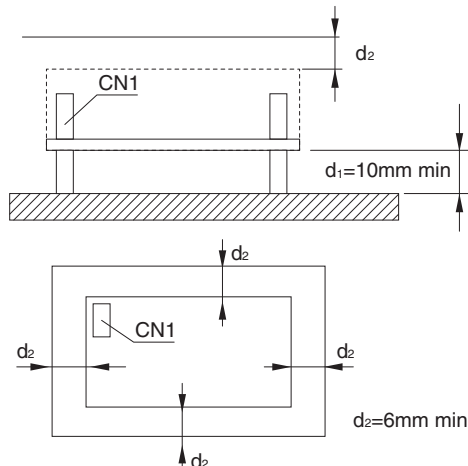

Fig.4.5 Installation method
- If using a metal chassis, keep proper insulation between the component and metal chassis, use the spacer of 10mm or more between bottom of power supply and metal chassis. If d_1 and/or d_2 are less than the value mentioned in Fig.4.5, insert an insulating sheet with reinforced insulation between the power supply unit and metal chassis. The following distance is not satisfactory for cooling condition. Please refer to section 4.1 for cooling method.